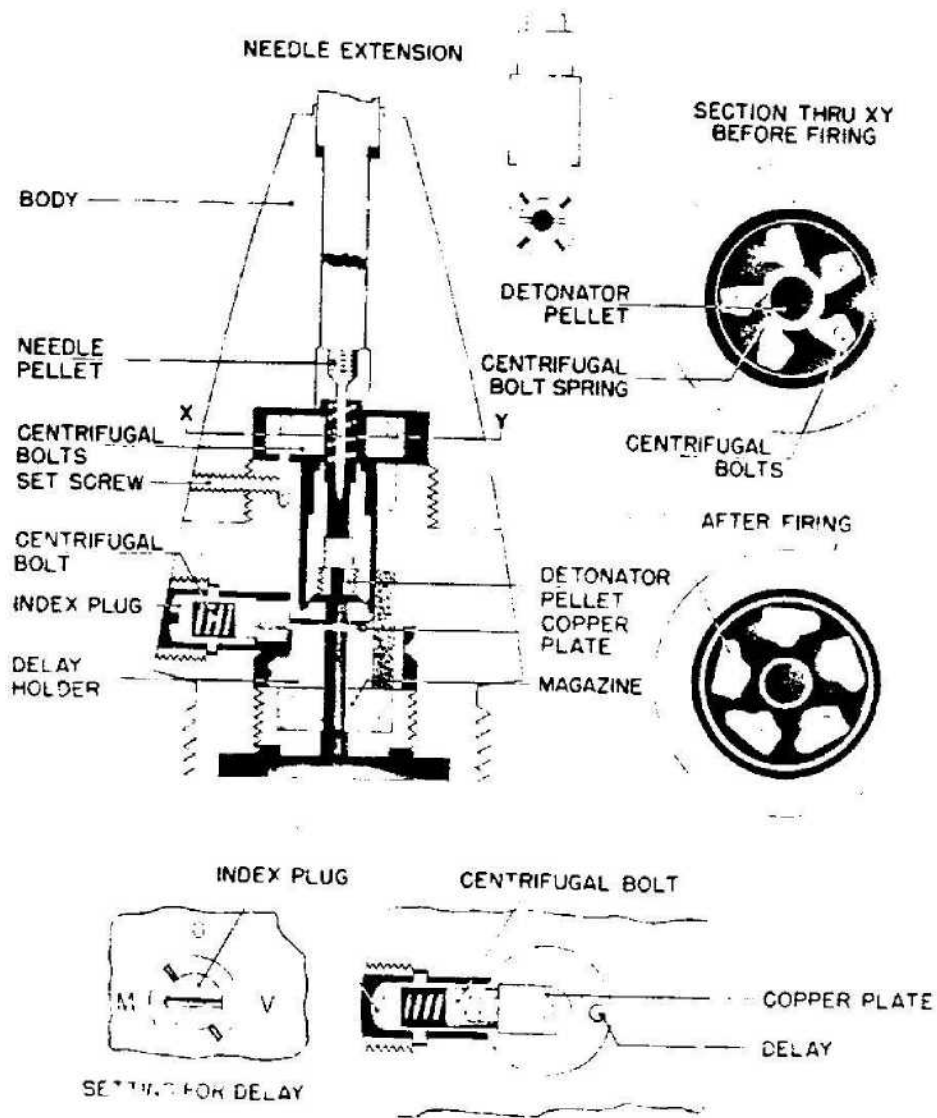

Figure 577A—A. Z. 23 (0.15)
**CONSTRUCTION:** The aluminum body of the fuze is in two parts. The head portion, which is screwed to the lower part, is solid and tapers towards the nose. A channel is formed through its center to accommodate the wooden hammer and the striker pellet. The channel is closed against air pressure at the top of a brass disc which is secured by a brass collar fitted around a stop formed in the nose of the fuze. The head is secured to the lower part by a fixing screw. (See fig. 577A.)